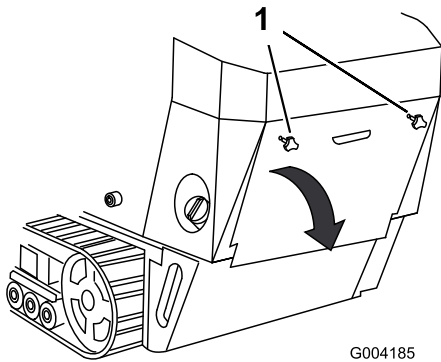

Figure 32
1. Unscrew the 2 hand knobs securing the rear access cover to the machine (Figure 32).
2. Tilt the rear access cover down and remove to access the internal components (Figure 32).